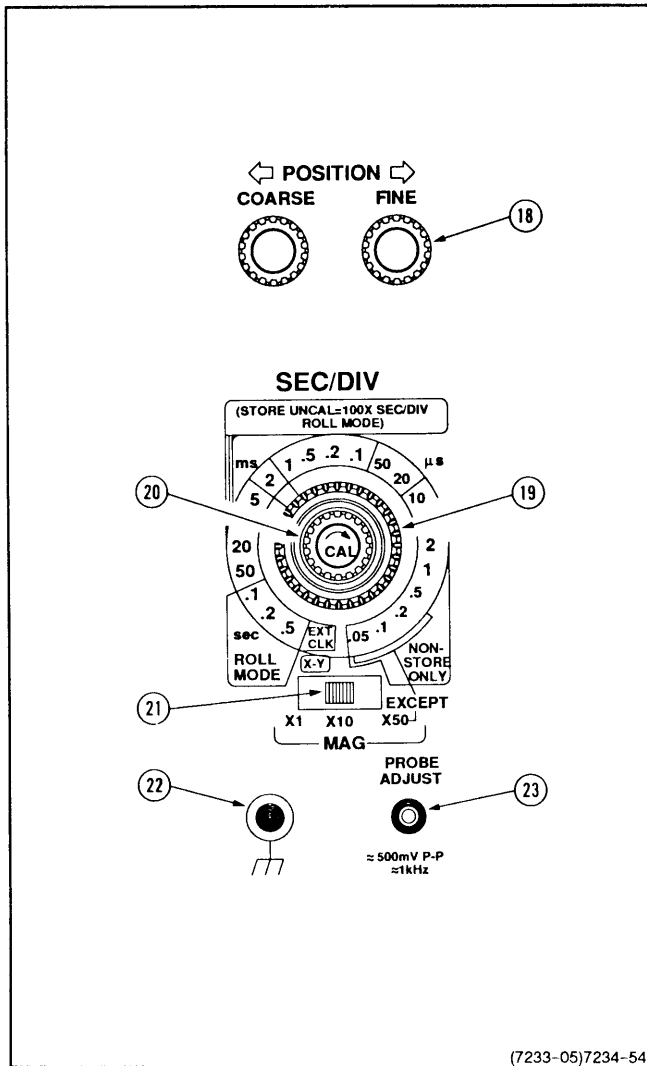

Figure 2-5. Horizontal controls.
See Figure 2-5 for the location of items 18 through 23.